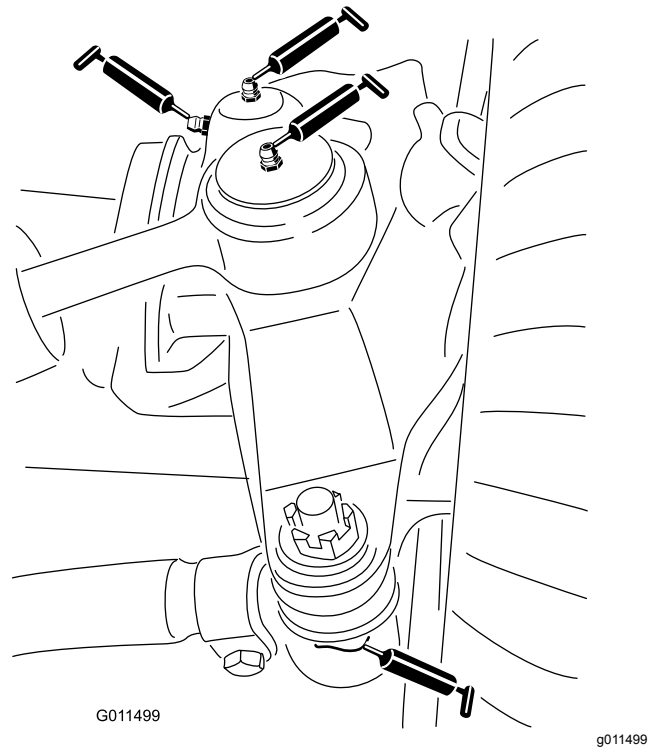

Figure 66
- 2 steering-cylinder-ball joints (Figure 66)
- 2 tie-rod-ball joints (Figure 66)
- 2 king-pin bushings (Figure 66).